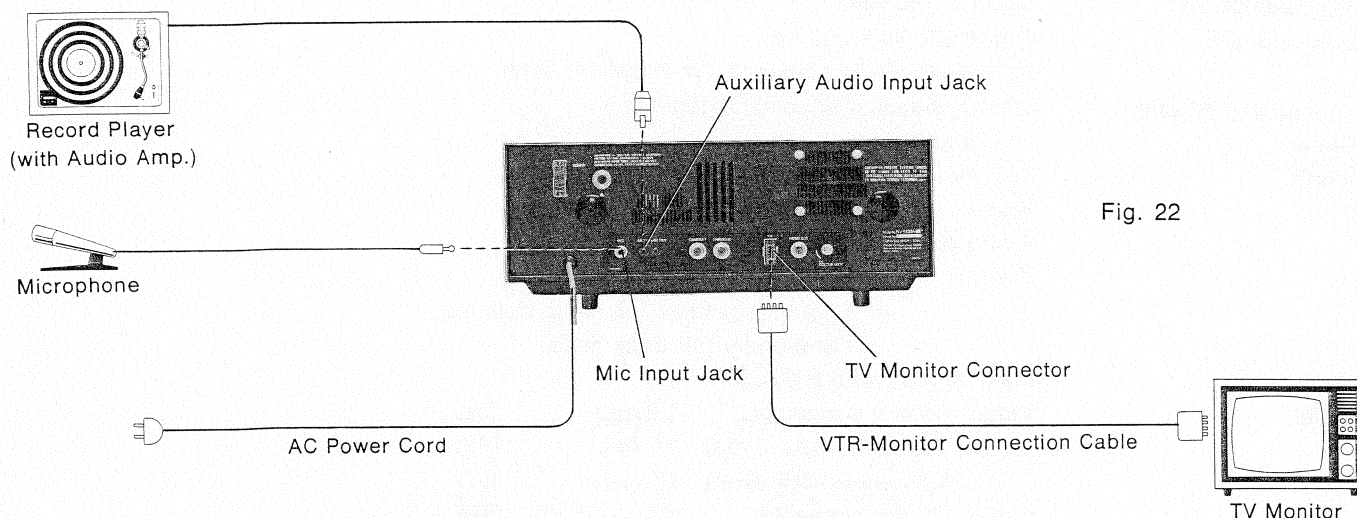

Fig. 22
1. Connect the audio recording sources as shown in Fig. 22.
2. Set the TV/Camera-1/Camera-2 Selector ②⑤ to the "CAMERA-1" or "CAMERA-2" position.
3. Set the Colour-B/W Selector ②⑥ to the position a corresponding to the program to be played back.
5. Press the Stop Button ①⑨ after the cartridge is inserted.
6. Press the Record Button ②① and adjust the audio recording level with the Audio Recording Level Control ①⑩ and the Audio Recording Level meter ⑤. After set it press the Play Button ①⑧ again.
7. Press the Play Button ①⑧ and press the Audio Dubbing Button ②② at the same time at the desired point while monitoring playback images.
8. Press the Stop Button ①⑨ to stop the audio dubbing. The tape will stop moving at the same time.